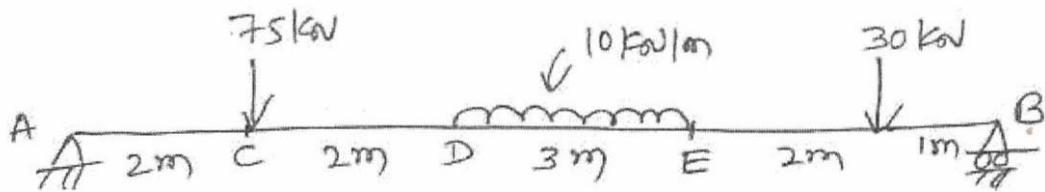

fig. 3
- Q2) a)** A simply Supported beam of span 10m loaded as shown in fig.3. Find the Support Reactions, shear force at point D & bending moment at Point F. Draw ILD for support reactions, shear force & Bending Moment. [9]